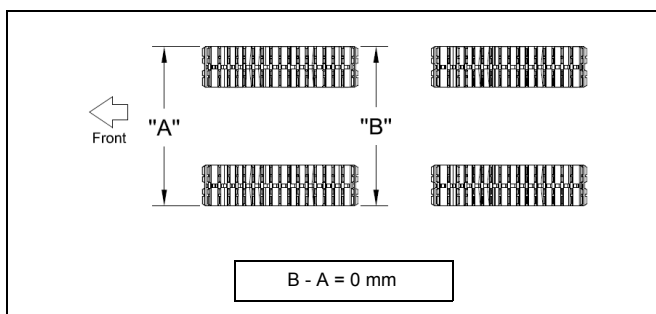

Figure 10
The parallelism must be adjusted with the UTV on the ground, driving forward on about 3 m and measuring toe in distance. It should be 0 mm equal at the front (A) than at the back (B) (refer to Figure 10).